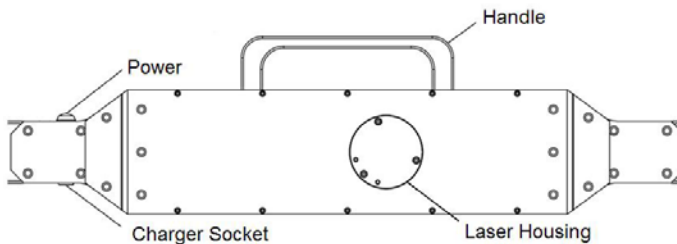

Figure 2
RouteScan produces a visible (635nm wavelength) laser beam which emerges from the Laser Housing (Figure 2)
3. Ensure that the gauge is powered by pressing the Power Button – the Power Button should now display a green light (Figure 2).